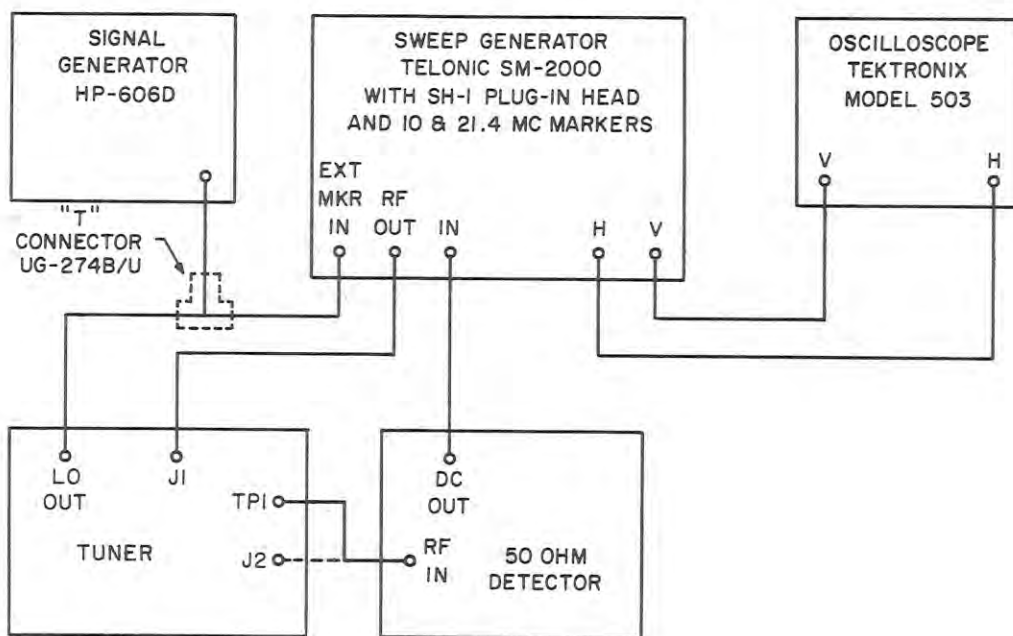

Figure 5-12. Tuner Alignment Test Set-Up
- (1) SH-222-3 Tuner. Connect the test equipment as illustrated in Figure 5-12.
(2) PR-21.4-3 Preamplifier
- a. Connect the test equipment as shown in Figure 5-12 with the RF output of the sweep generator connected to preamplifier input jack J1. The LO OUTPUT from the tuner is not used and therefore the output of the 606D signal generator is connected directly to the EXT. MKR. connector on the sweep generator.